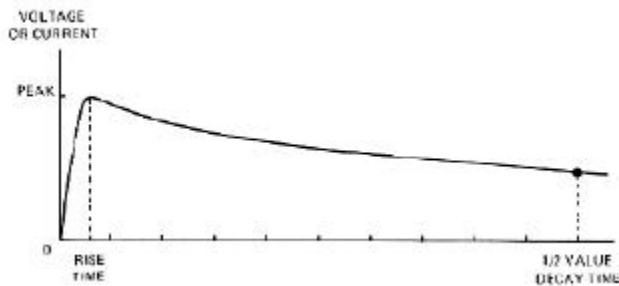

Fig.27.4 Waveform
- a. waveform for voltage/current stress tests (Fig.27.4)